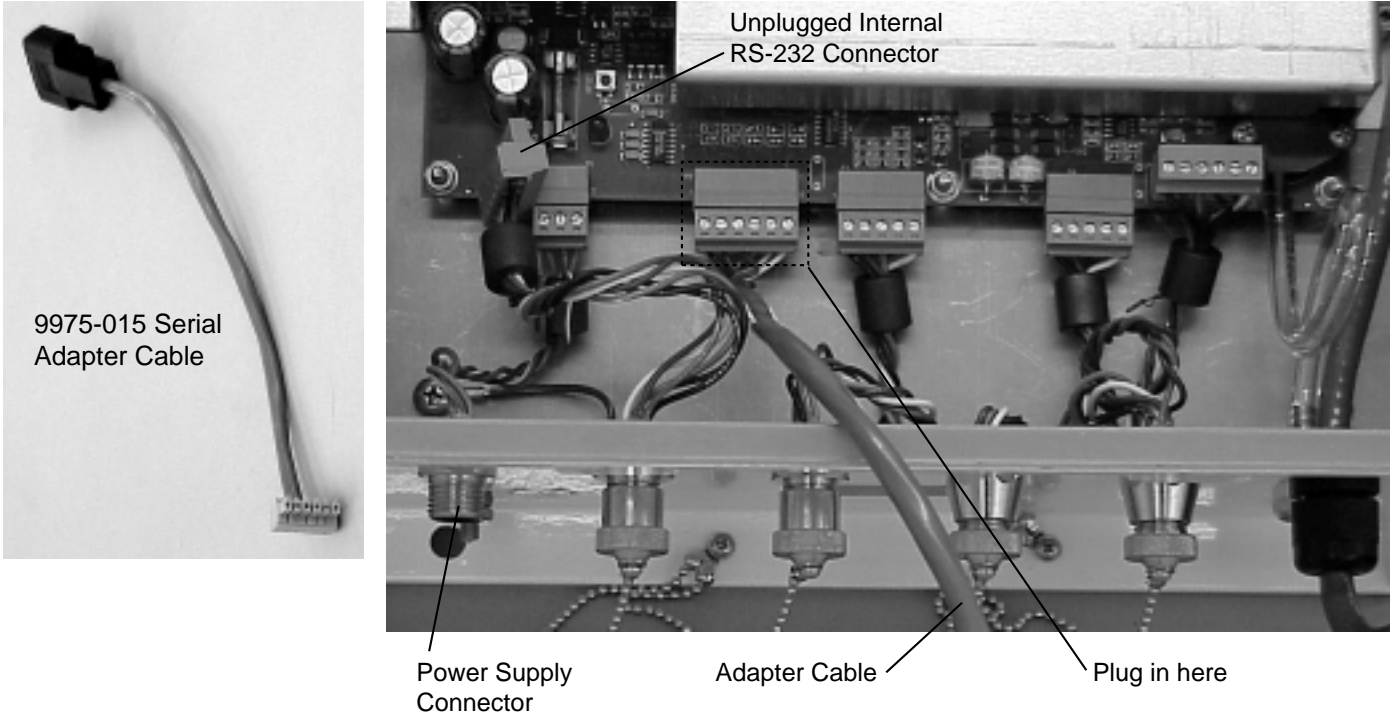

Figure 1-2. Unplug the internal RS-232 connector, and plug in the adapter cable.
The LI-7500 sensor head is connected to the control module via a 3m (10') shielded cable. The cable has a circular connector which is attached to the sensor head as shown in Figure 1-2. Align the red marks on the cable connector and the sensor head, and push straight in. To unplug the connector, pull straight out. *Do Not Twist!*
The power supply cable (#392-05619) has a circular connector that attaches to the LI-7500 control unit front panel at the location shown in Figure 1-2. The other end has bare wire leads for connection to a 10.5-30VDC supply (2A or greater). Connect the red/white lead to the positive terminal of the power supply, and the green wire to the negative terminal.
- b. Unplug the internal RS-232 connector from the board, as shown in Figure 1-2.
- c. Plug the 9975-015 adapter cable (Figure 1-2) into this connector.